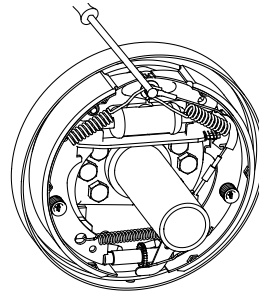

Fig. 2-11
(2) Remove two shoes return springs. (See Fig.2-11)